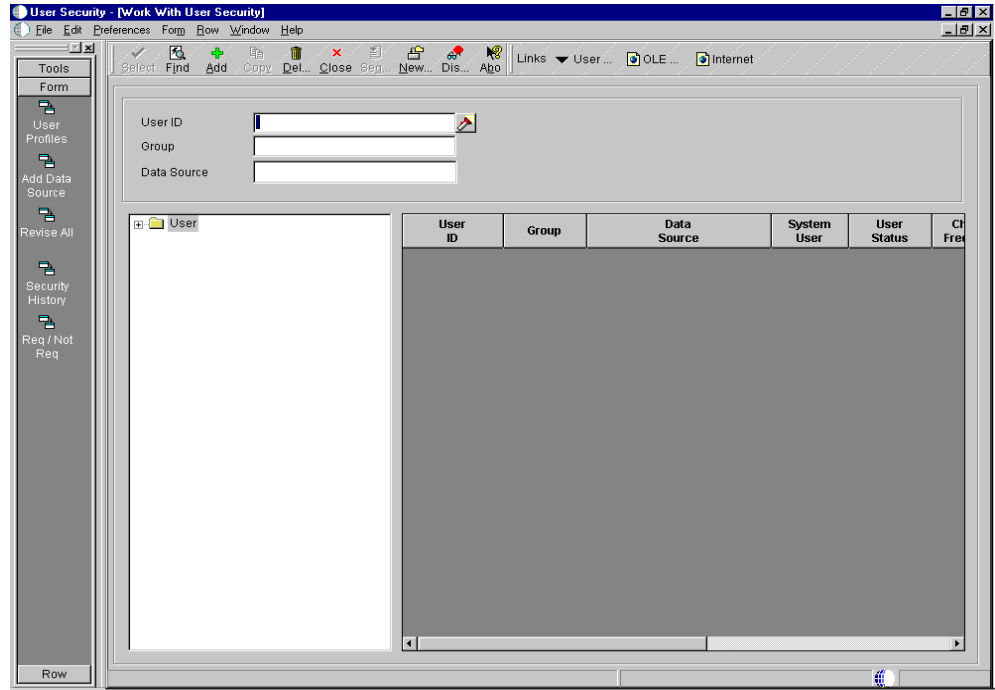

Figure 209. Work with Sign On Security display
5. Click the **Required/Not Required** icon in the left toolbar. See Figure 209.